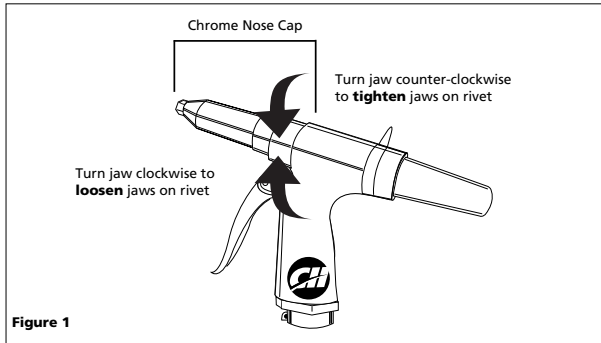

Figure 1
- Hold rivet gun with nose cap pointing away from self. Remove chrome nose cap (See Figure 1).
- Turn jaw counter-clockwise making jaws tighten on rivet. Turn clockwise to loosen jaws on rivet (See Figure 1).